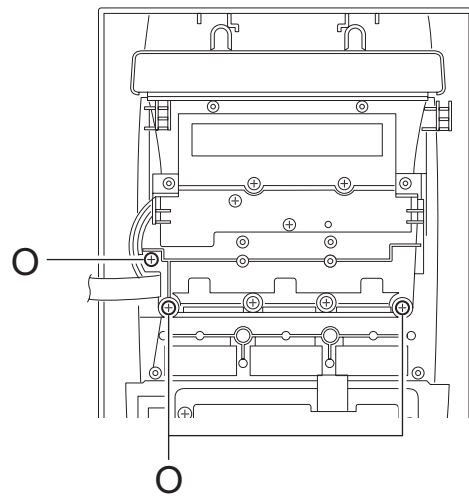

Fig.19
(1) Remove the four screws **N** attaching the LCD board assembly.
2.1.13 Removing the control panel assembly (See Fig.19,20)